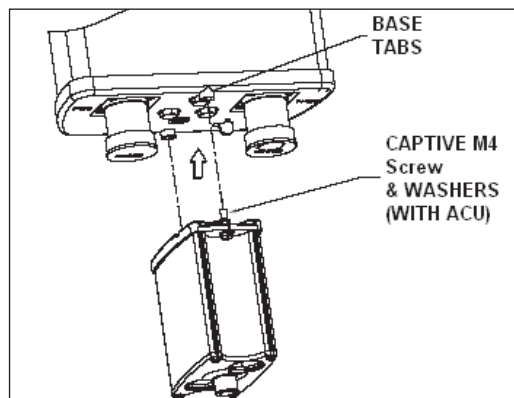

Figure 1 Typical single band installation
3. Attach the ACU onto the antennas as shown in **figure 1**.